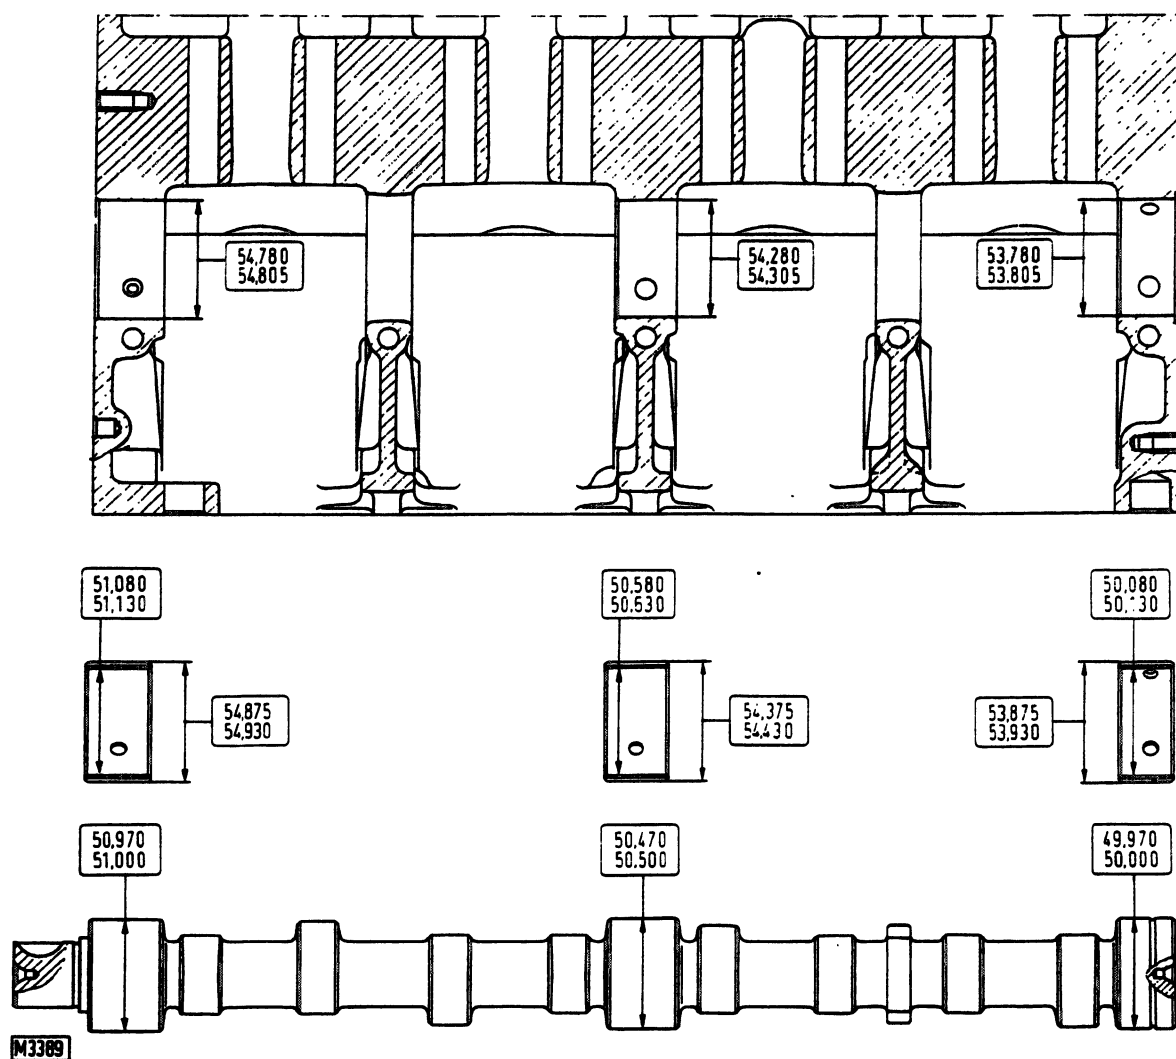

Fig. 20 - Main data of camshaft, bushings and seats in the block.
Check camshaft journal wear referring to Fig. 20 and to data given in Section 9.
Check dimensions (Fig. 20) with inside gauge. To remove bushings proceed as follows:
- reface bushing bore with fixed blade reamer to bring diameter to dimension indicated in Fig. 20.